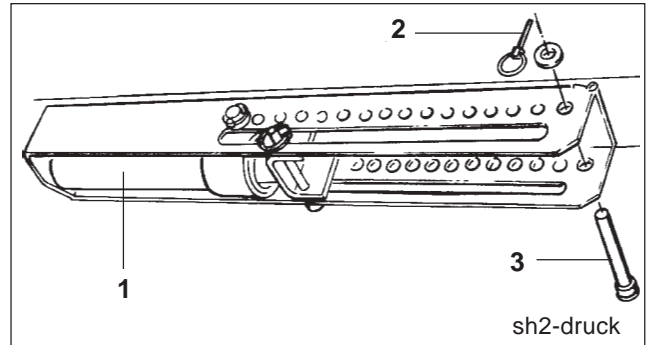

Fig. 12.7
- Relieve the hydraulic ram (Fig. 12.7/1) from pressure.
- Insert the pin (Fig. 12.7/3) into a hole of the quadrant plate and secure with clip pin (Fig. 12.7/2). Each hole is identified by a figure. With increasing figures the coultter pressure will become higher.